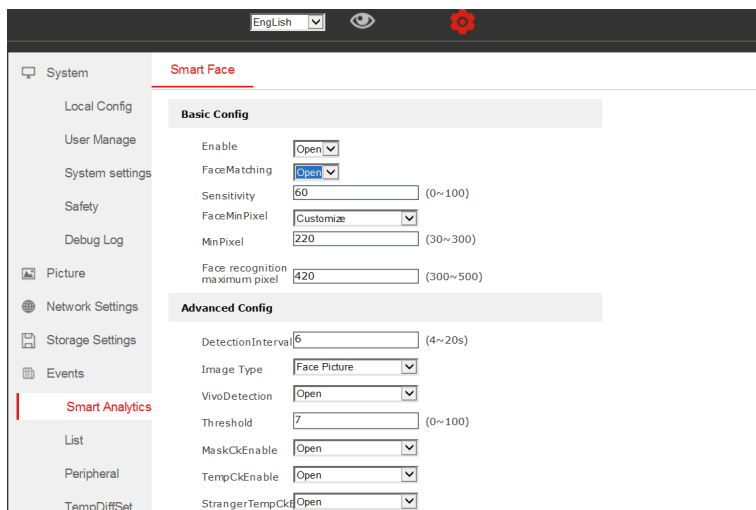

Fig.12
- EVENTS > Smart Analytics tab (Fig.12)